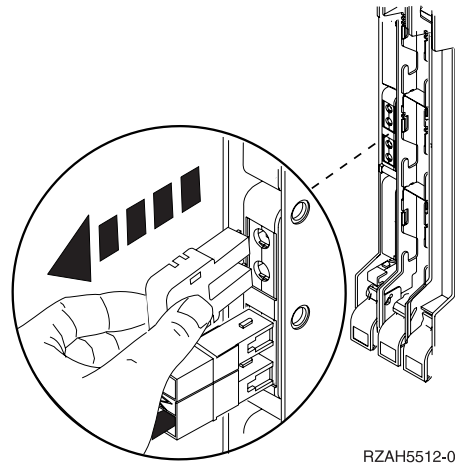

Figure 4. Removing an optical cable
- Refer to Figure 4 on page 5 before disconnecting cables.